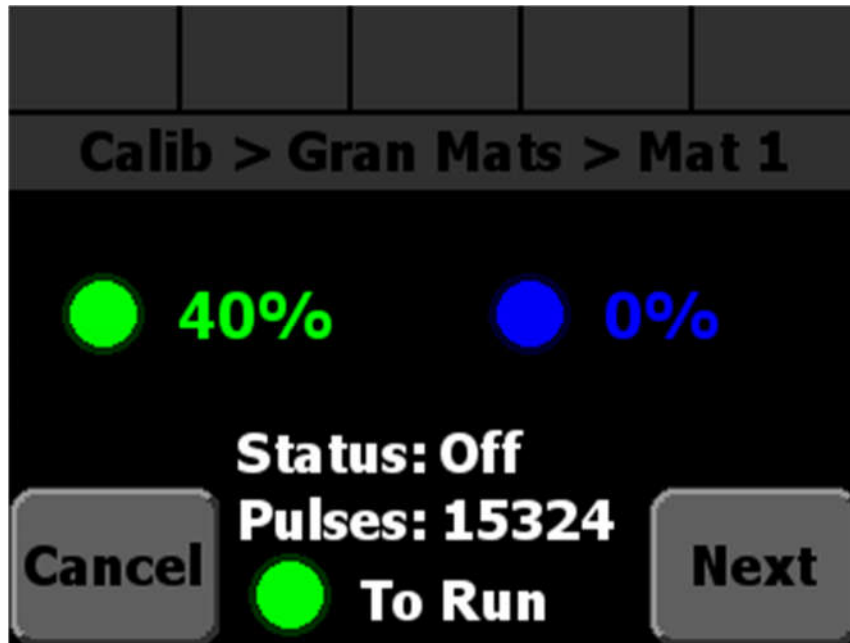

Figure 5: Granular AutoCal Screen after running
- STEP 12: Press the green, Standby knob to stop dispensing material. The status should change to "Off", as shown in Figure 5. If your system is an Open Loop system the pulses will be 0.